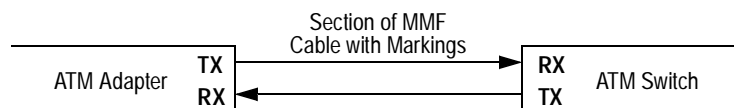

Figure 3-5. Connecting the MMF Cable to the ATM Switch
- 5 Attach the other end of the MMF cable to the ATM wall port or directly to an MMF connector on the ATM switch (Figure 3-5).